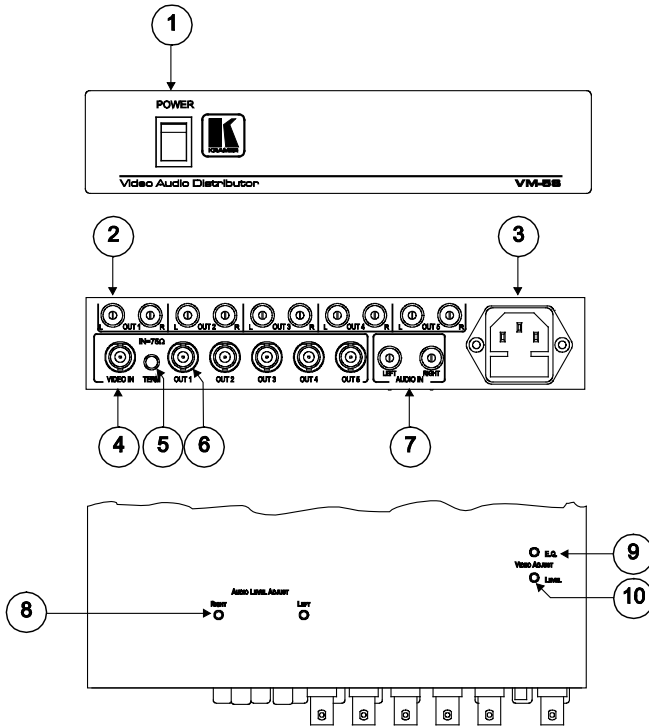

Figure 2: VM-5S Video Audio Distributor
Figure 2 and Table 2 define the VM-5S.
7. If needed, adjust the AUDIO LEVEL and VIDEO LEVEL and EQ controls on the underside of the unit (see Figure 2).